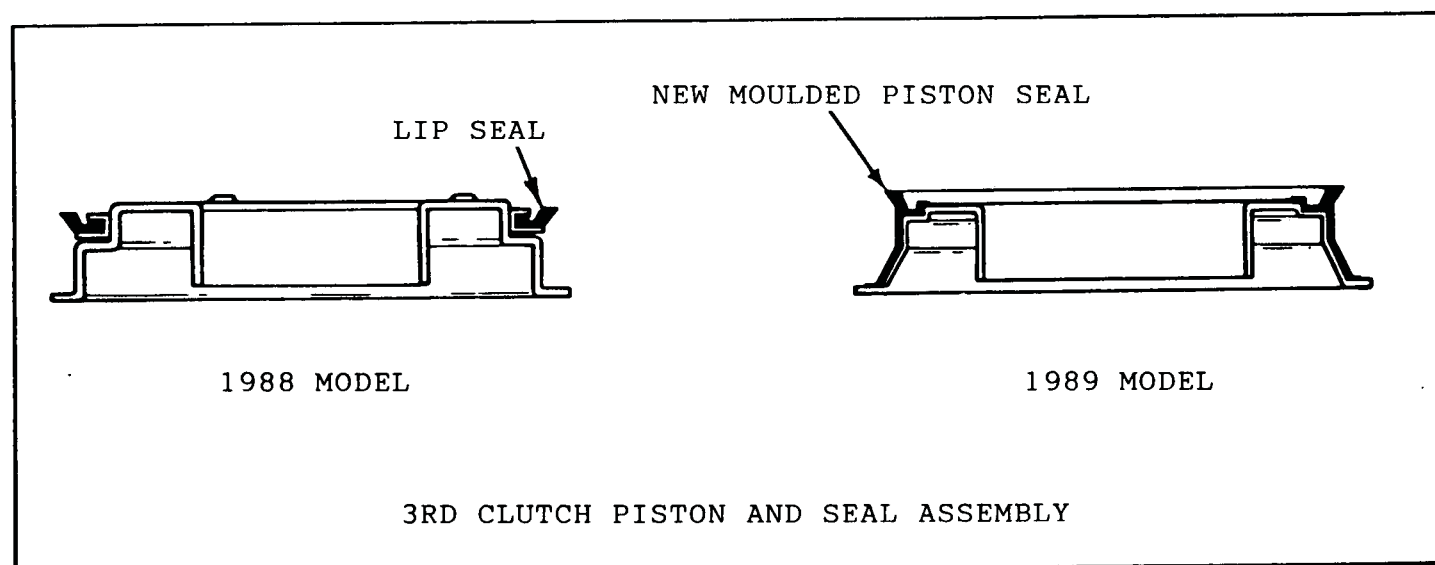

Figure 84
- (3) 3rd Clutch Piston - The 3rd clutch piston outer seal is now moulded to the 3rd clutch piston (See Figure 84).